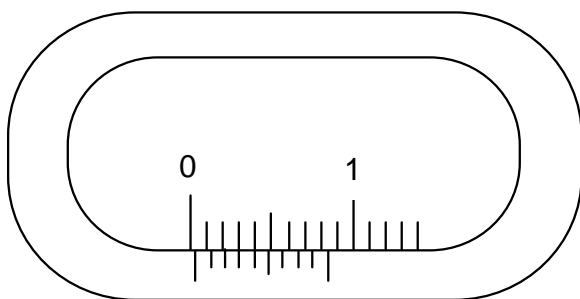

Figure 2-5. Vernier caliper with its jaws closed. Does it have a zero error?
3. The caliper in Figure 2-5 has its jaws closed. If the caliper has a zero error what is its value? Is it positive or negative? Error = -0.03 cm